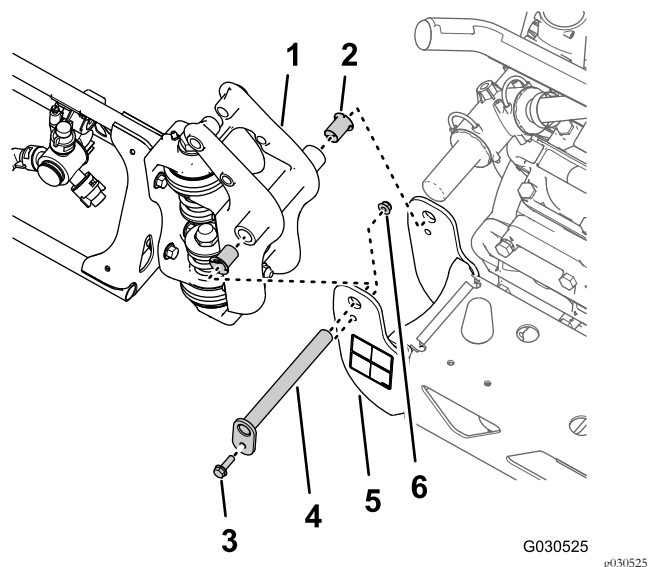

Figure 40
1. Remove the flange bolt (5/16 x 1 inch) and flange locknut (5/16 inch) securing the pivot pin to the pivot bracket (Figure 40).
2. Remove the pivot pin from the pivot bracket for the center-spray section and the pivot fitting for the outer-spray section (Figure 40).
3. Separate the outer-spray section from the center-spray section and remove outer section from the machine (Figure 40).
4. Remove the 2 nylon-flange bushings from the pivot fitting of the outer-spray section (Figure 40).